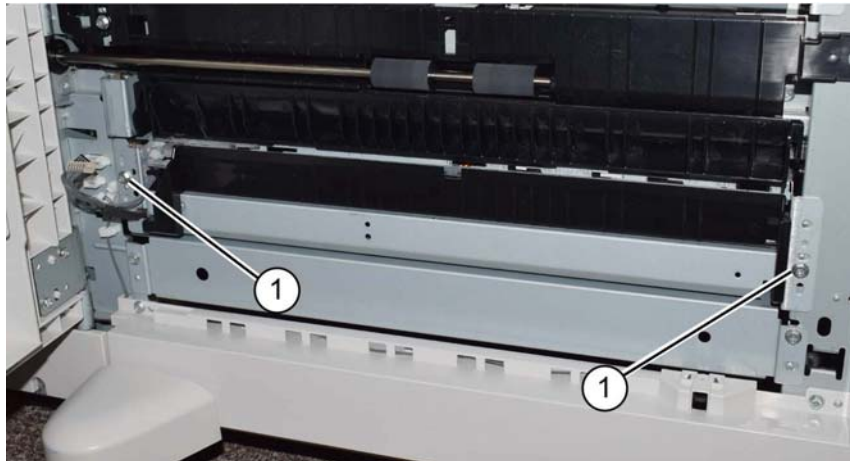

Figure 4 Tray 3 feeder assembly left side fittings
7. Remove two screws (1), Figure 4: